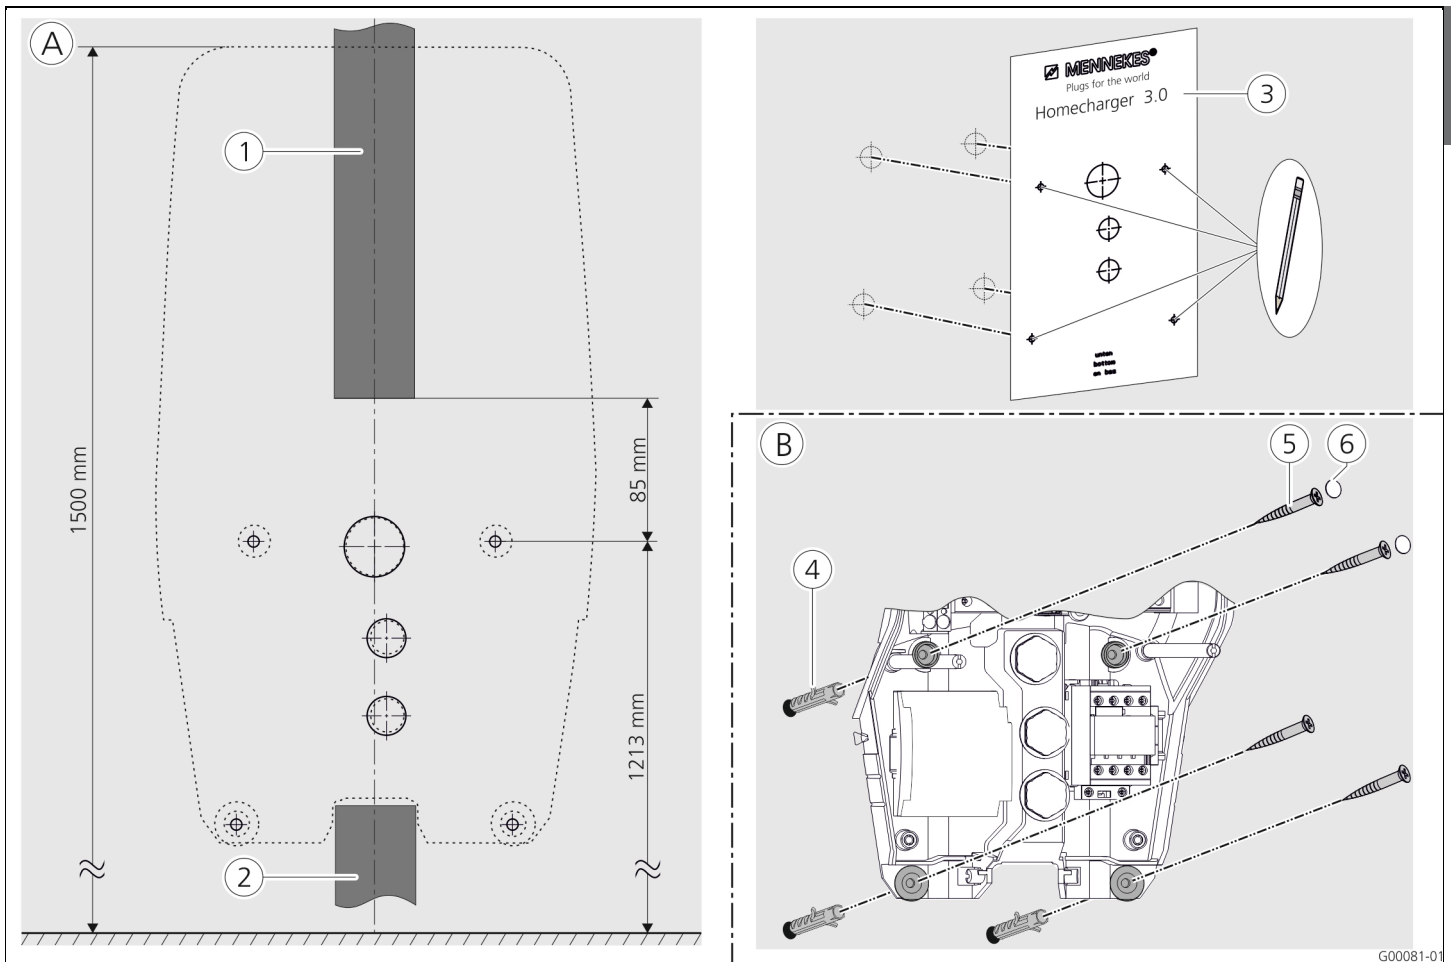

Fig. 13: Wall mounting
- See also Fig. 13: Wall mounting.
➔ See also Fig. 13: Wall mounting.